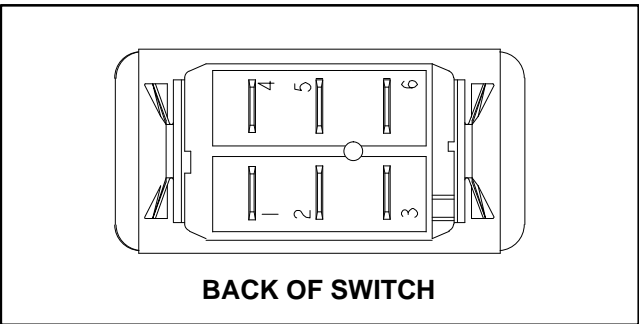

Figure 37
- 4. The deck lift switch terminals are identified in Figure 37 and the circuitry of the lift switch is shown in Figure 38. With the use of a multimeter (ohms setting), the switch functions may be tested to determine whether continuity exists between the various terminals for each switch position. Verify continuity between switch terminals.